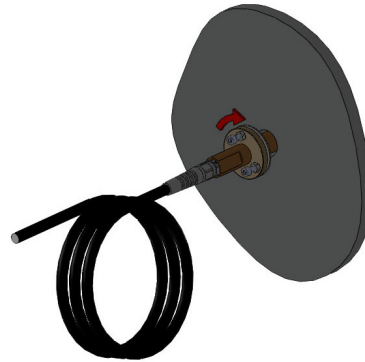

Fig.6.3
**TIP:** DO NOT over-tighten locking bolts, you will fracture the light body and this will not be covered under warranty. (See Fig.6.3).